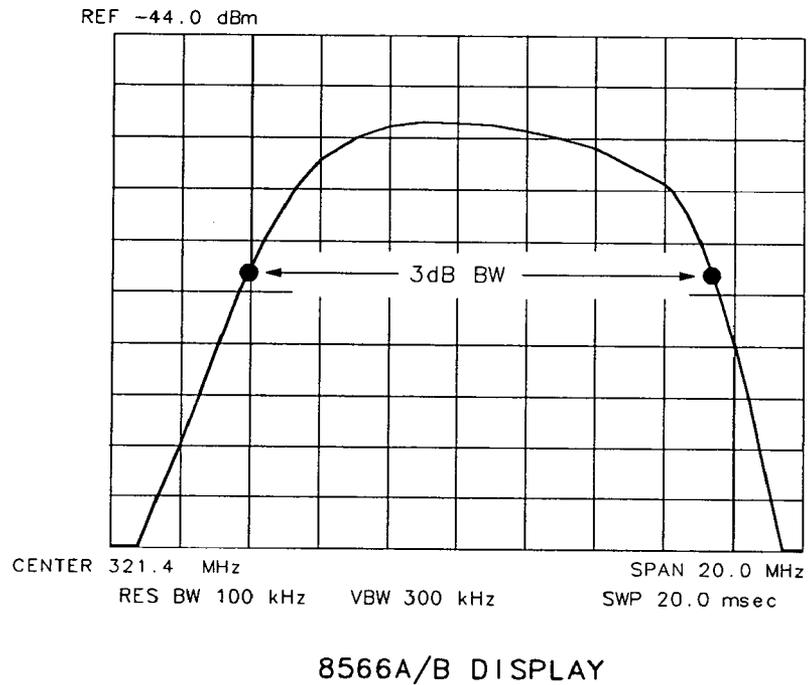

Figure 2-22. Second Converter Bandpass Ripple Measurement
21. Press MARKER MODE (Δ) and rotate the knob clockwise so that the marker delta amplitude reads 0 dB and is on the right-hand side of the response. Read the marker delta frequency. It should be 15 MHz ±2.5 MHz. See Figure 2-22.